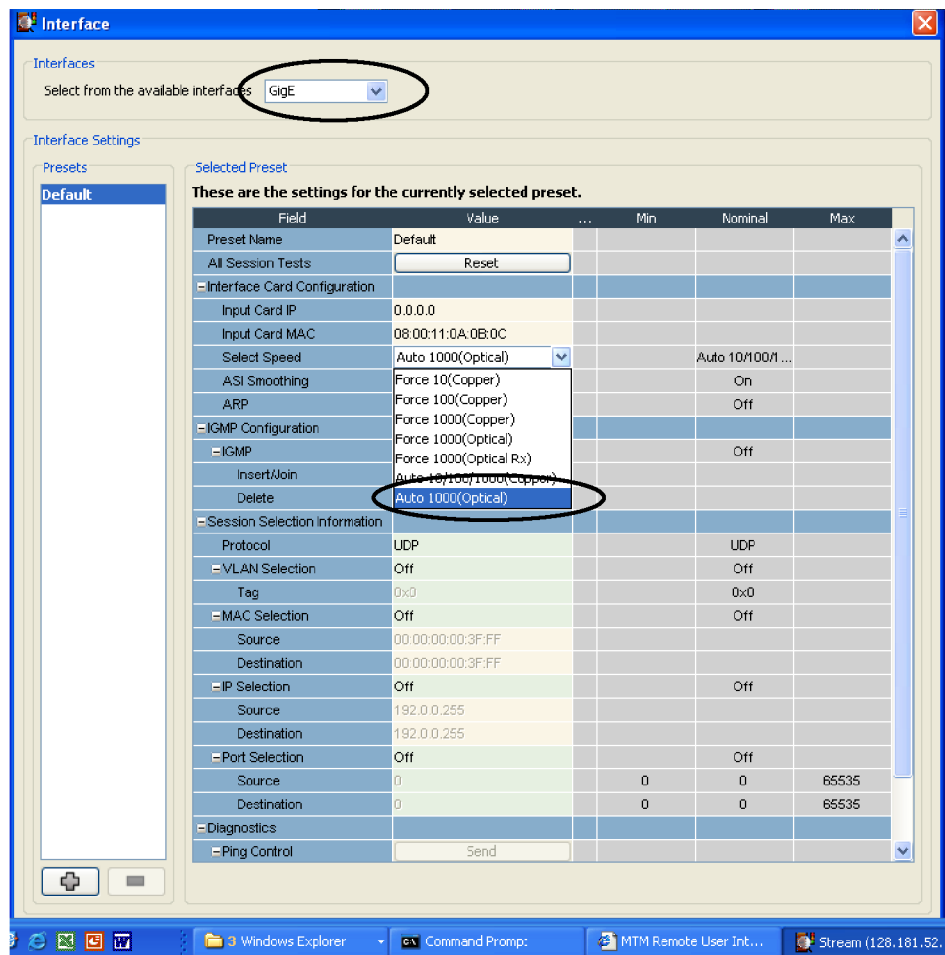

Figure 49: Selecting the interface card speed in the Interface dialog box
4. In the Interface dialog box, select **GbE** from the Interfaces drop-down list, and then select **Auto 1000(Optical)** from the Select Speed drop-down list. (See Figure 49.)